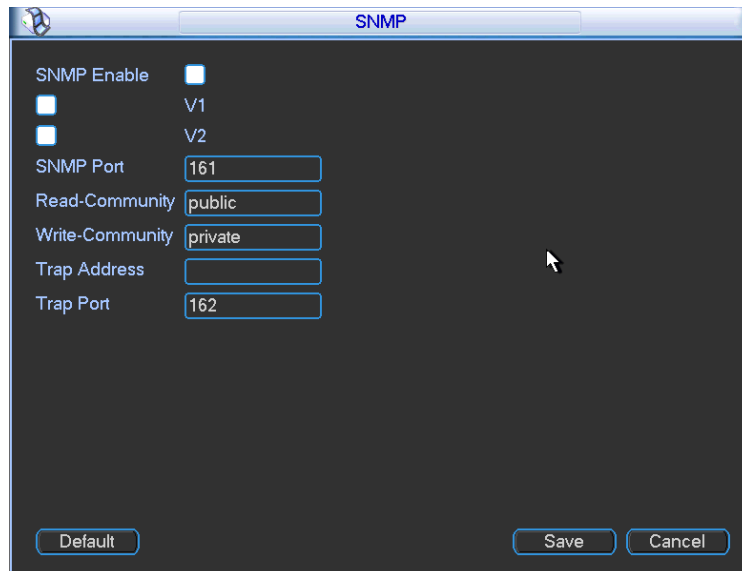

Figure 6-50
You can set in the following interface. See Figure 6-50.
- In Figure 6-50, check the box to enable the SNMP function. Input the IP address of the PC than is running the software in the Trap address. You can use default setup for the rest items.